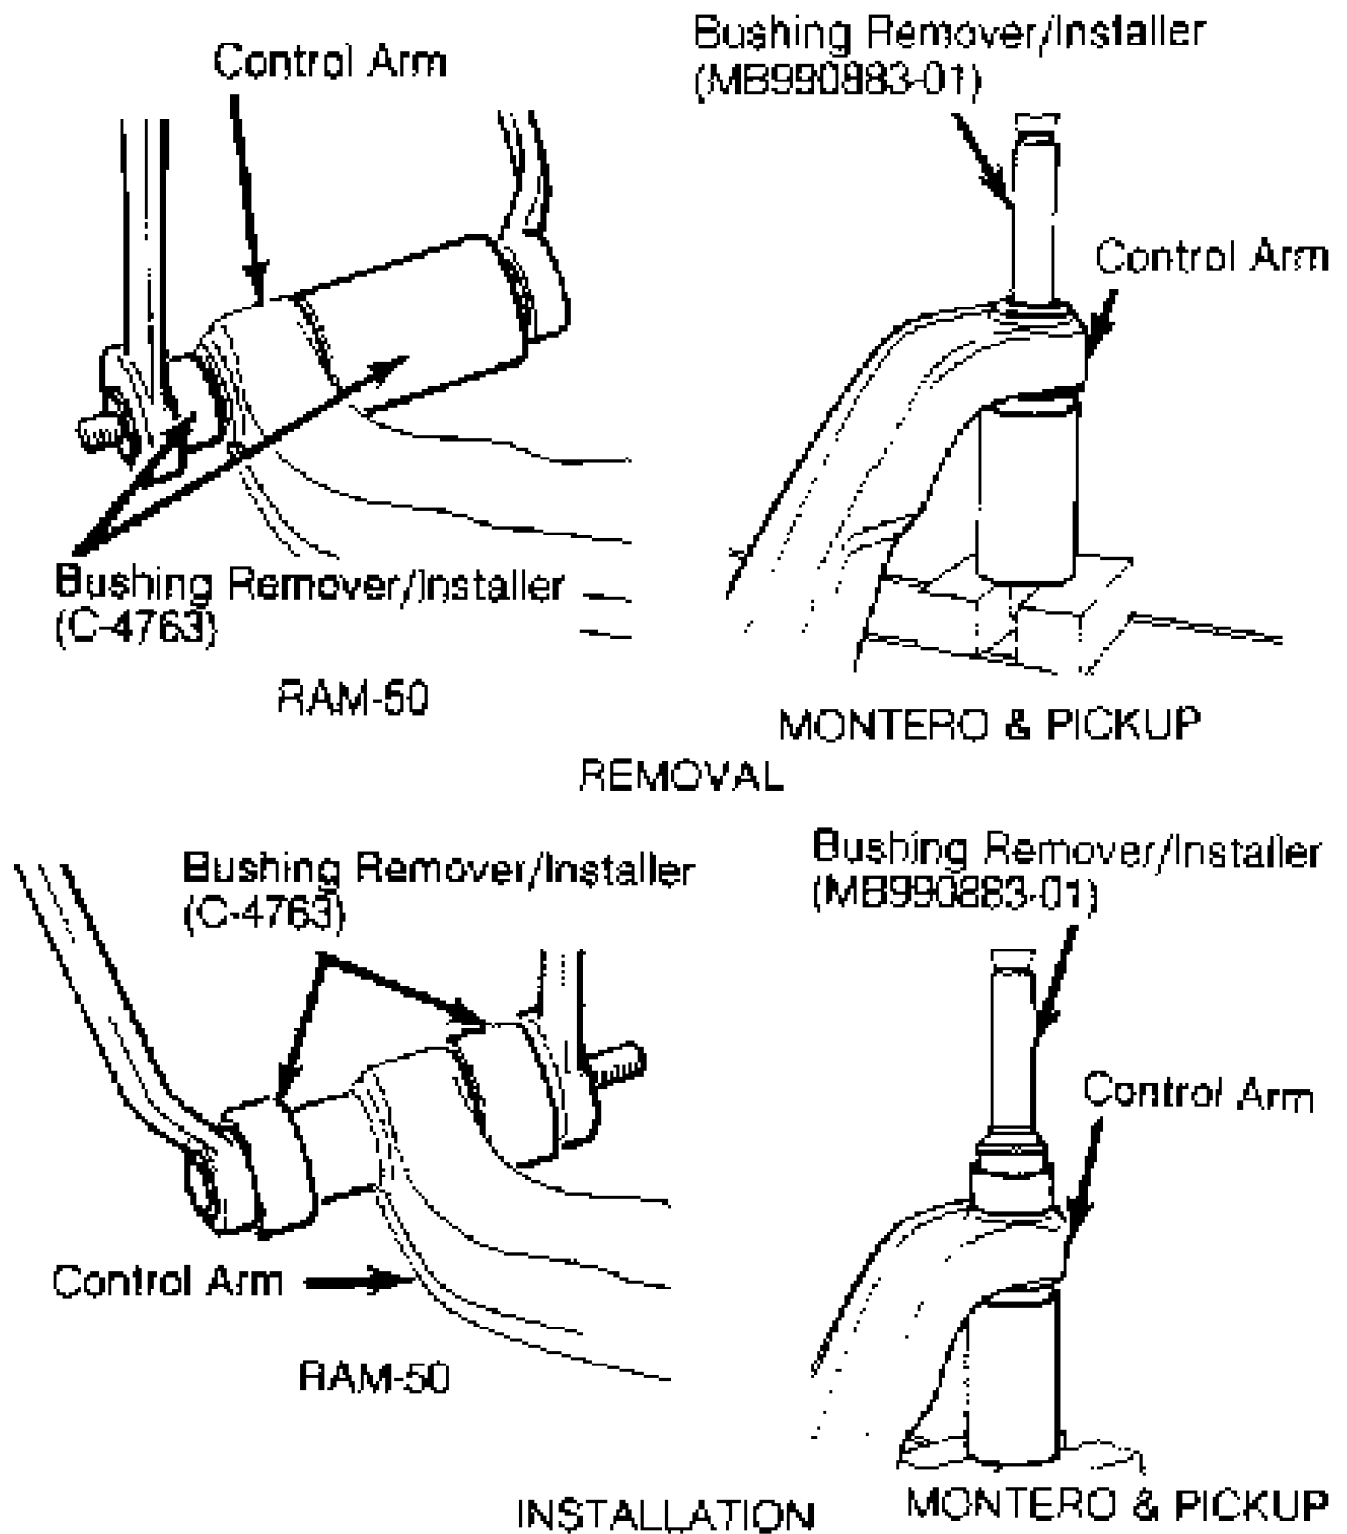

Fig. 4: Replacing Lower Control Arm Bushing
4) If control arm bushing needs replacing, use press and Bushing Remover/Installer (MB990883-01). Press bushing from control arm. See Fig. 4.